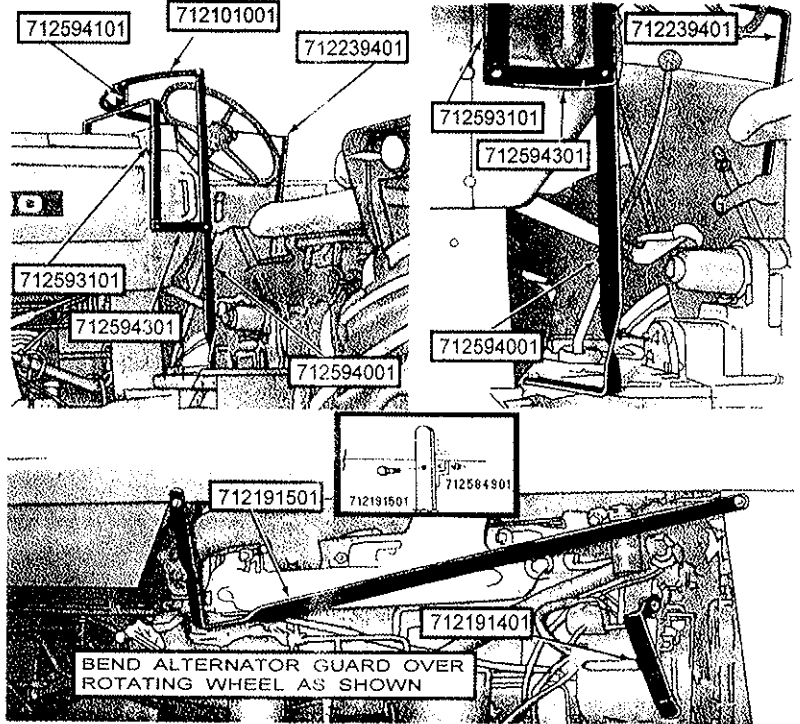

Figure 4
1. Bolt #712191401 alternator guard to alternator using 5/16" x 3/4" hex head bolt and nut. Bend guard ahead or back so it prevents rotating wheel from cutting cover. (See Figure 4).
2. Bolt #712191501 exhaust guard to front of tractor using bolt in tractor. Then bolt #712584901 clamp to exhaust guard and over sheet metal of tractor using 5/16" x 1 1/2" hex head bolt and nut. (See Figure 4).